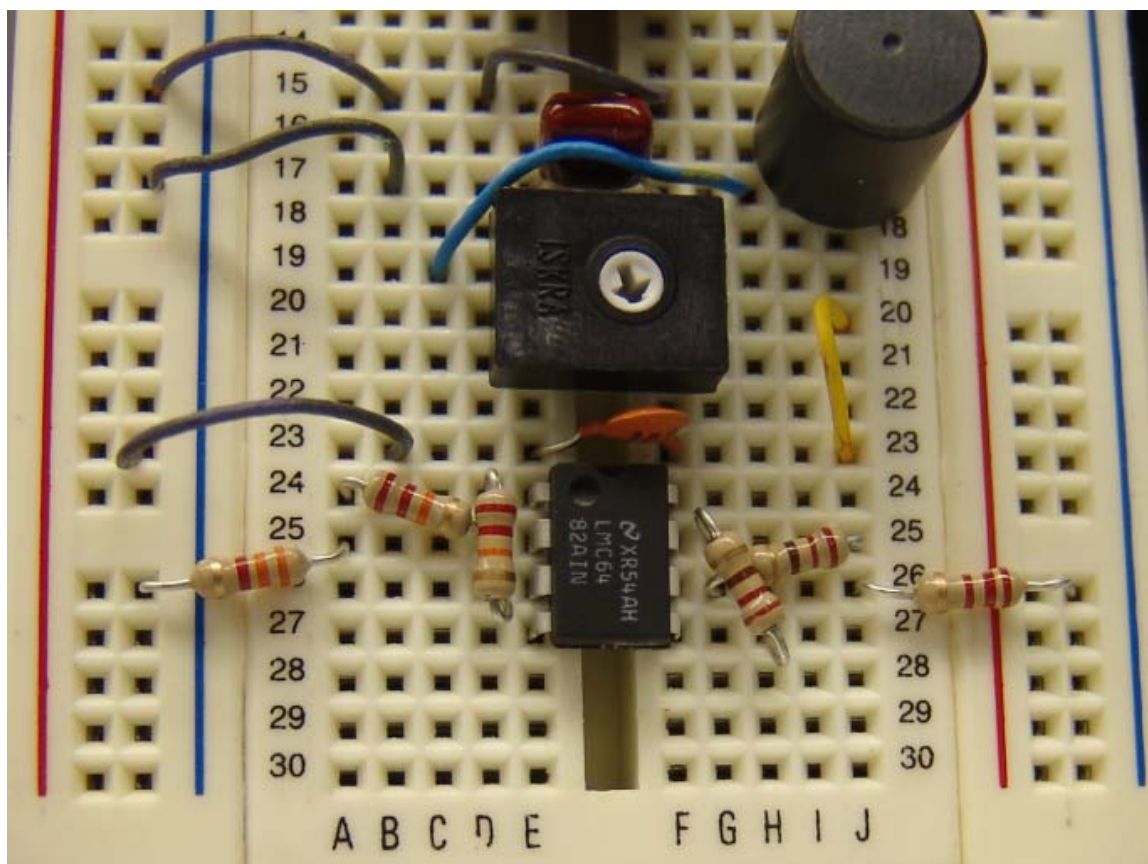

Figure 17. Connect B17 and B23 to the negative battery terminal
13. Connect the ends of the capacitor to the common battery terminal, refer to figure 17.